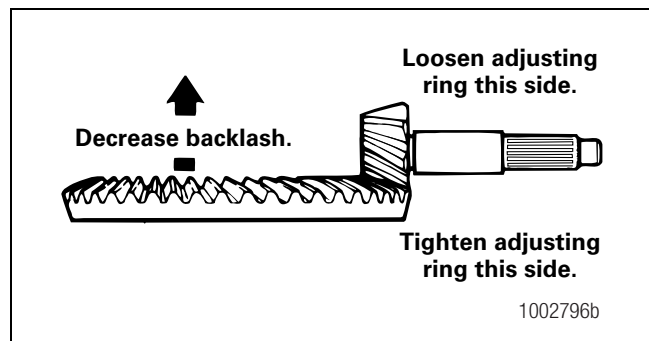

Figure 5.46
- **To decrease the backlash:** Move the ring gear toward the drive pinion. Figure 5.46.